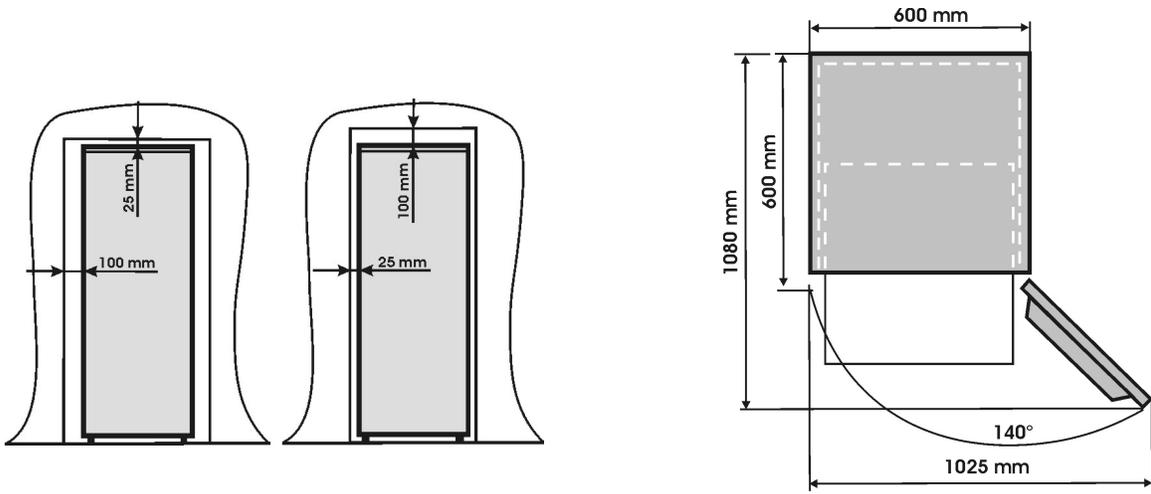

Fig 2
3. Make sure that sufficient room is provided around the appliance to ensure free air circulation (**Fig 2**).
- Open the door of your appliance ensure that there is enough space to allow the door to open properly. (**Fig 2**).